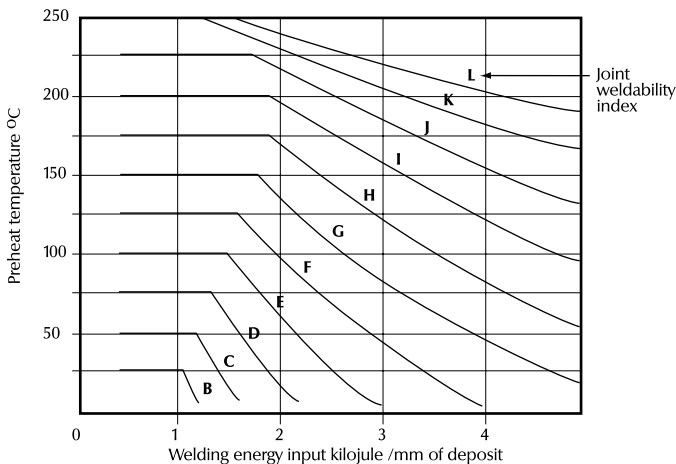

Figure 2 - Determination of preheat requirements for hydrogen controlled electrodes (EXX16, EXX18, EXX28 & EXX48) semi-automatic and automatic welding process.
4. Cross reference the joint weldability index, with the expected welding energy input (in KJ/mm) on Figure 2* or 3* to calculate the appropriate preheat temperature.
*Note: if a **hydrogen controlled welding consumable** is to be used, refer to Figure 2;
3. Preheat temperatures should be determined in accordance with the requirements of Figure 2 or 3 with the preheat temperature being maintained between subsequent weld passes.